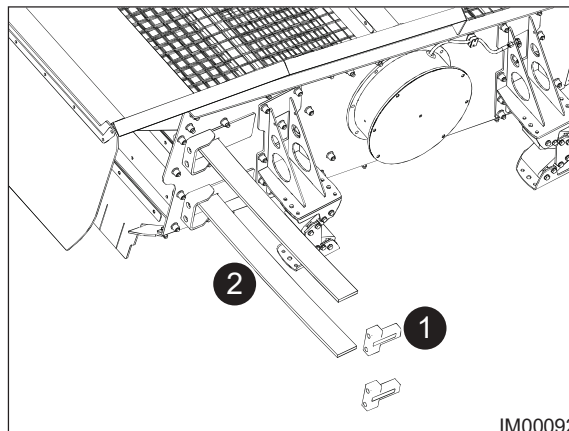

Fig: 11.31 - Tensioners & Camber Bars
3. Remove the mesh tensioner bolts, followed by the tensioners (Items 1, Fig: 11.31) on both sides of the screen box (4 in total).
4. Remove the camber bars (Items 2). Ref: Fig: 11.31.
11. Refit the mesh tensioners (Items 1, Fig: 11.31) and secure with bolts.